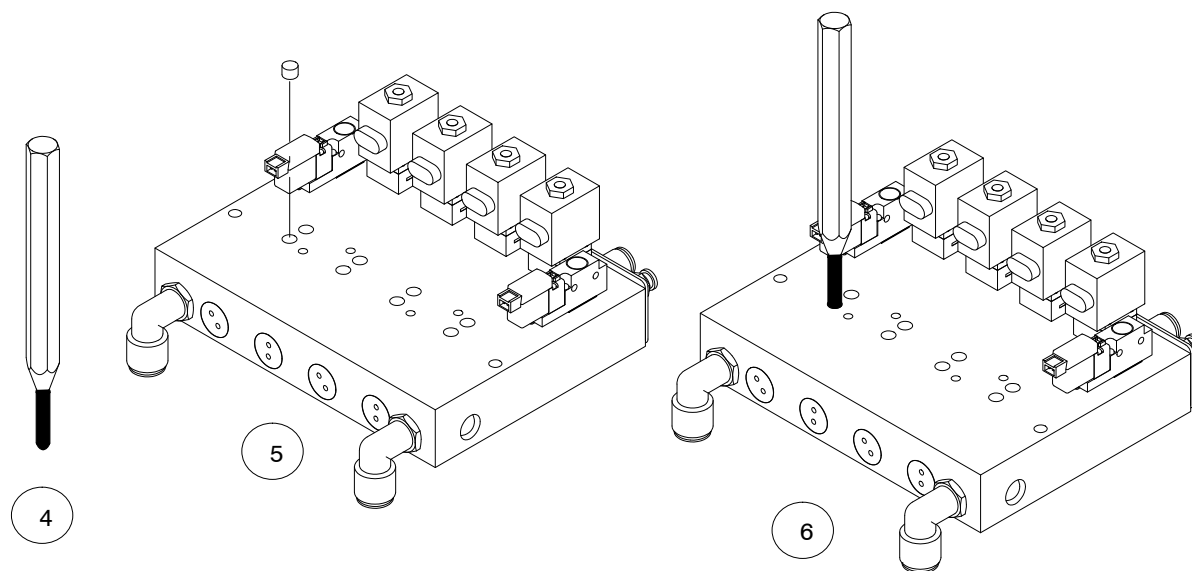

Figure 4 Filter replacement steps 4 through 6.
4. See Figure 4. Install the cover on the replacement tool.